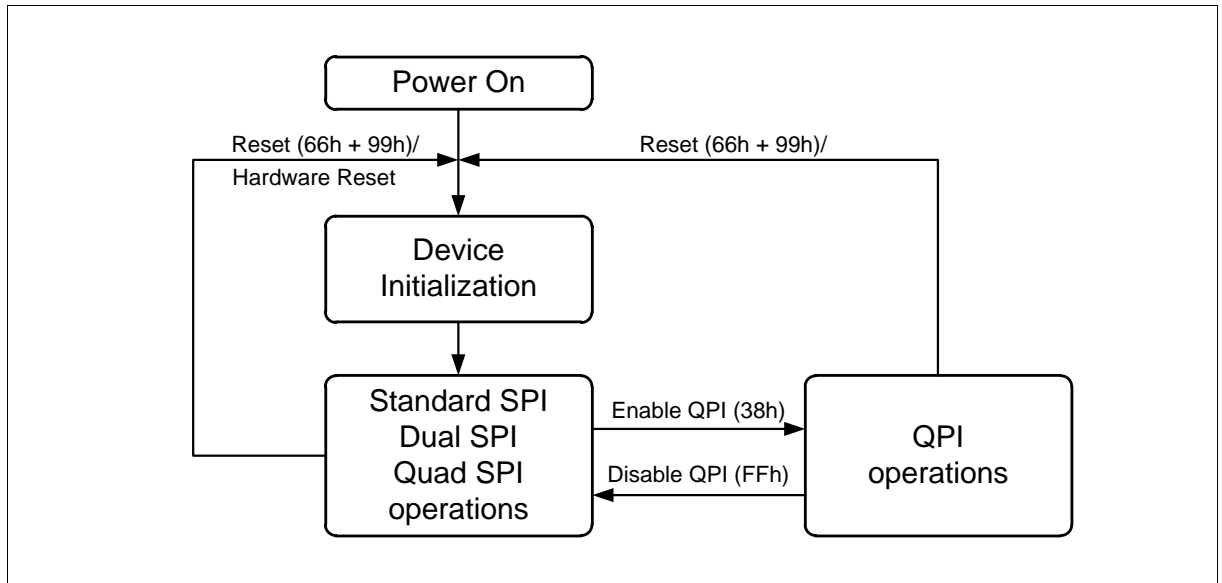

Figure 5 FM25Q128 Serial Flash Memory Operation Diagram
The FM25Q128 supports Quad Peripheral Interface (QPI) operations only when the device is switched from Standard/Dual/Quad SPI mode to QPI mode using the “Enable QPI (38h)” instruction. The typical SPI protocol requires that the byte-long instruction code being shifted into the device only via DI pin in eight serial clocks. The QPI mode utilizes all four DQ pins to input the instruction code, thus only two serial clocks are required. This can significantly reduce the SPI instruction overhead and improve system performance in an XIP environment. Standard/Dual/Quad SPI mode and QPI mode are exclusive. Only one mode can be active at any given time. “Enable QPI (38h)” and “Disable QPI (FFh)” instructions are used to switch between these two modes. Upon power-up or after a software reset using “Reset (99h)” instruction or hardware reset, the default state of the device is Standard/Dual/Quad SPI mode. To enable QPI mode, the non-volatile Quad Enable bit (QE) in Status Register-2 is required to be set. When using QPI instructions, the DI and DO pins become bidirectional DQ0 and DQ1, and the WP# and HOLD# pins become DQ2 and DQ3 respectively. See Figure 5 for the device operation modes.